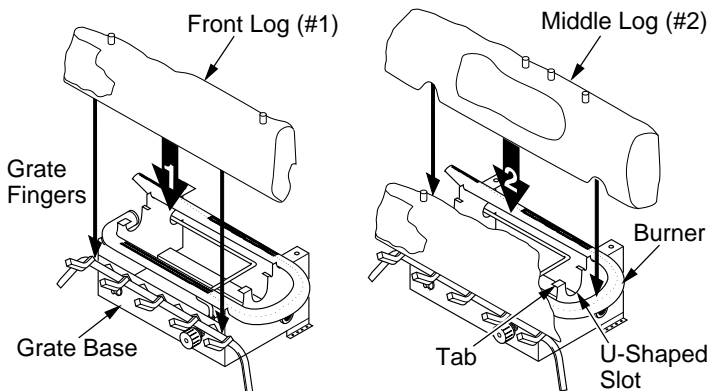

Figure 27 - Installing Front Log (#1) (CCL3930NTA Shown) Figure 28 - Installing Middle Log (#2) (CCL3930NTA Shown)
1. Place the front log (#1) on the grate fingers. Make sure the front log rests firmly between the grate fingers and the grate base (see Figure 27).